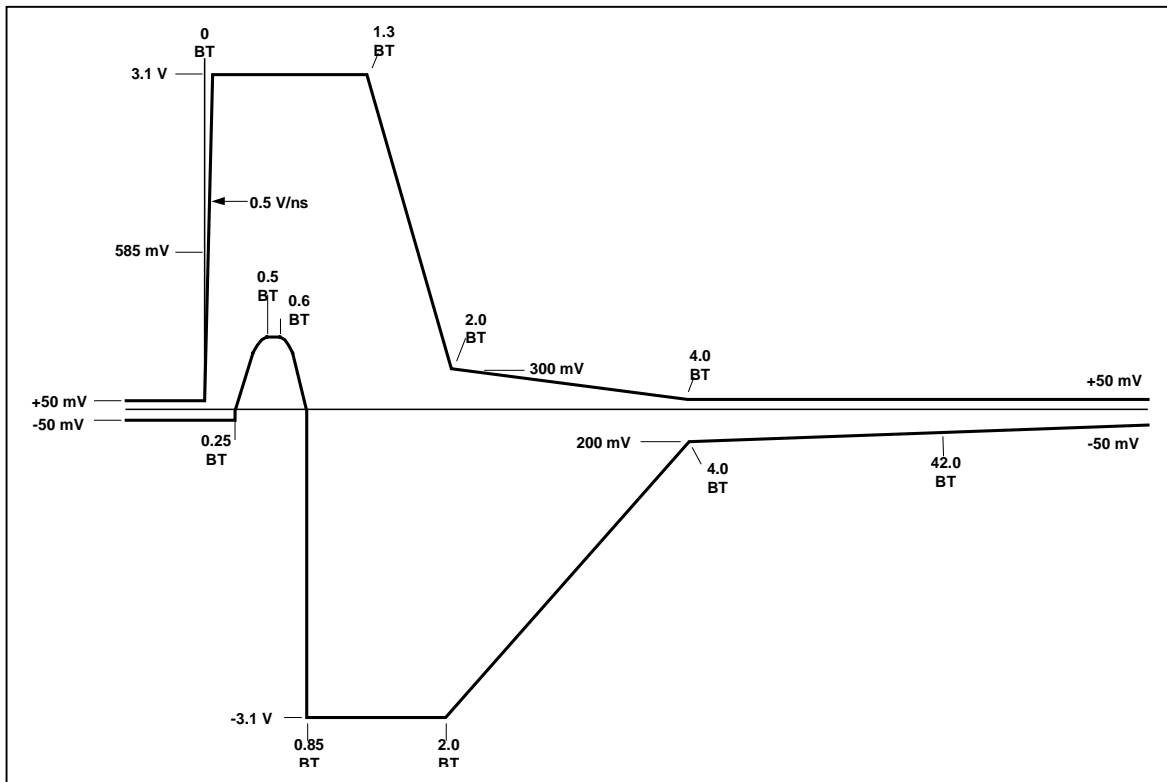
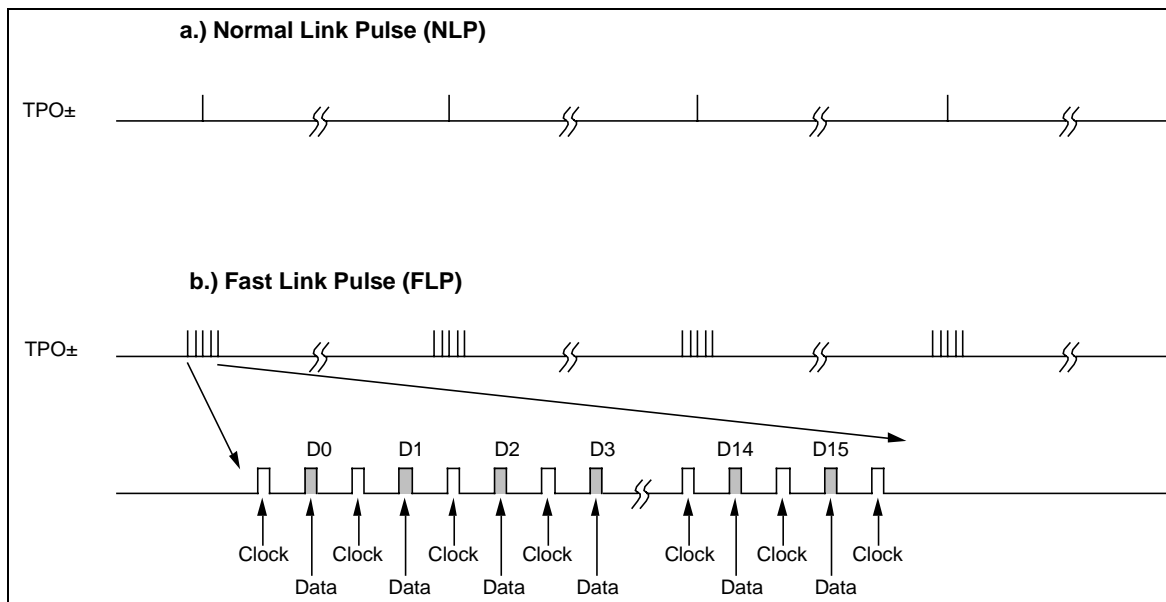

FIGURE 10 - LINK PULSE OUTPUT VOLTAGE TEMPLATE - NLP, FLP
FIGURE 11 - NLP VS. FLP LINK PULSE
The LAN91C111 uses the same 10BASE-T link integrity algorithm that is defined in IEEE 802.3 Clause 14. This algorithm uses normal link pulses, referred to as NLP's and transmitted during idle periods, to determine if a device has successfully established a link with a remote device (called Link Pass State). The transmit link pulse meets the template defined in IEEE 802.3 Clause 14 and shown in FIGURE 10. Refer to IEEE 802.3 Clause 14 for more details if needed.
As stated previously, the AutoNegotiation algorithm is used for two purposes: (1) To automatically configure the device for either 10/100 Mbps and Half/ Full Duplex modes, and (2) to establish an active link to and from a remote device. The AutoNegotiation algorithm is the same algorithm that is defined in IEEE 802.3 Clause 28. AutoNegotiation uses a burst of link pulses, called fast link pulses and referred to as FLP'S, to pass up to 16 bits of signaling data back and forth between the LAN91C111 and a remote device. The transmit FLP pulses meet the templated specified in IEEE 802.3 and shown in FIGURE 10. A timing diagram contrasting NLP's and FLP's is shown in FIGURE 11.